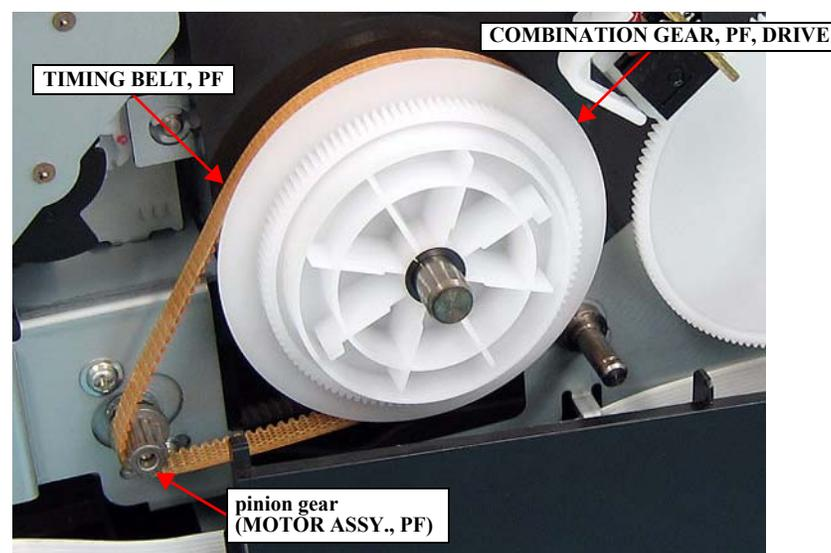

Figure 4-130. Removing the TIMING BELT, PF
6. Remove the TIMING BELT, PF from the pinion gear and the COMBINATION GEAR, PF, DRIVE of the MOTOR ASSY., PF. *See Figure 4-130.*